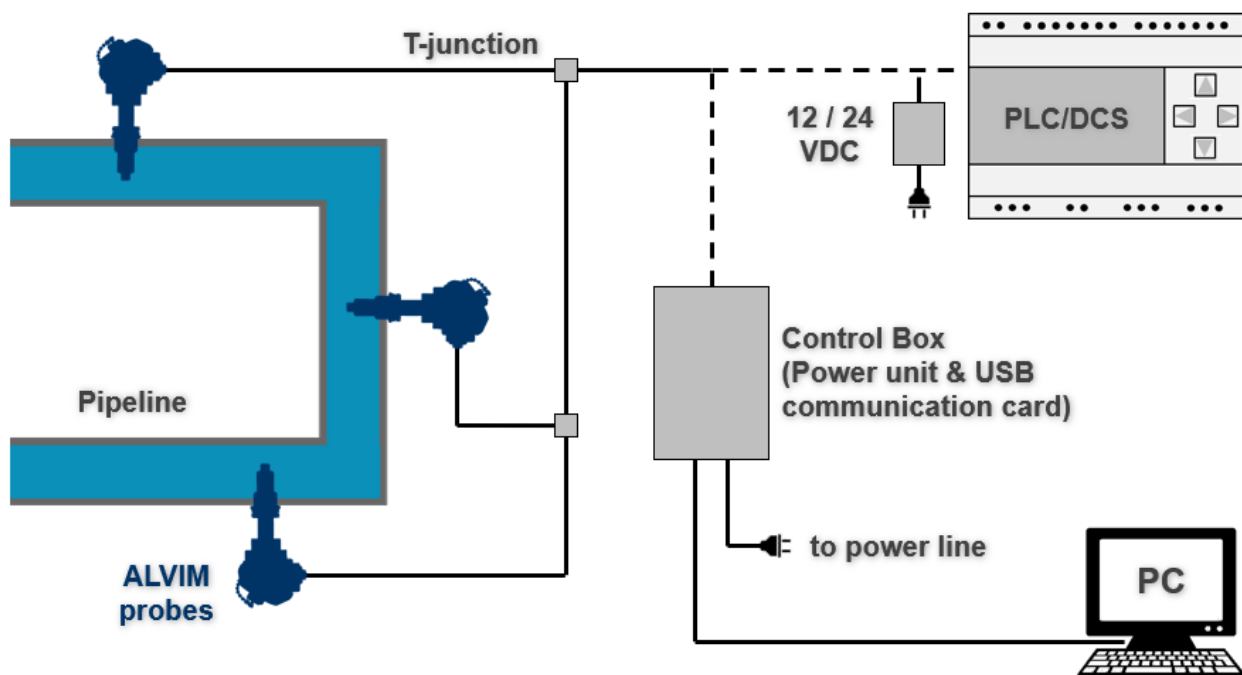
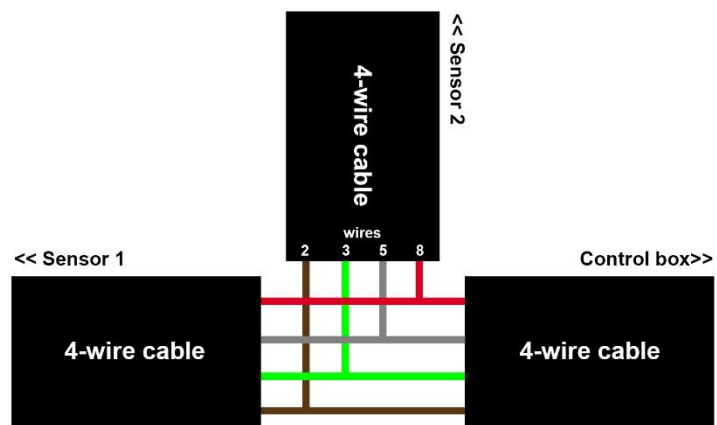

Figure 2: General overview of ALVIM System architecture, for RS485/MODBUS
Figure 6: T-junction of 4-wire cables
Figure 2 gives a general overview of ALVIM System architecture. Please note that, while data/power cable and RS485 cable can cover long distances (up to one hundred meters), USB cable can be used only for short links (2-3 m).
**ONLY FOR RS485/MODBUS COMMUNICATION:** If more than one Sensor is going to be installed using the same cable (bus), a 4-wire cable should be used, creating a T-junction for each Sensor to be connected, as in Figure 2 and Figure 6.